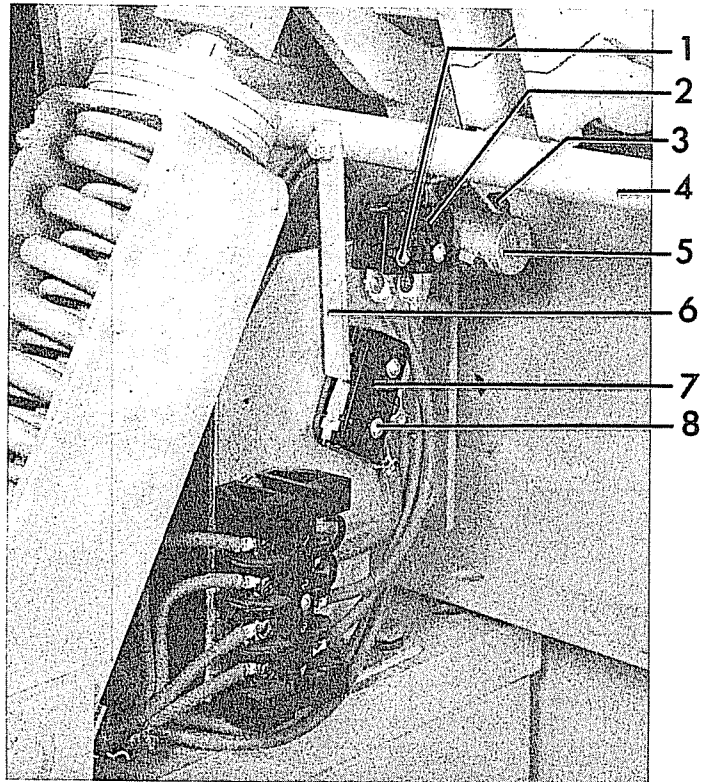

Figure 10 (8024689) Interlock Switch and Latch Checking Switch
Referring to Figure 10, rotate the interlock shaft (4) manually clockwise to release the interlock switch arm (6). The point at which the contacts make can be determined with a circuit continuity tester such as a light indicator or bell set. To obtain adjustment on the interlock switch (7), bend the interlock switch arm (6). The roller and crank on the interlock switch should have  $1/32''$  to  $1/16''$  overtravel after final adjustment.